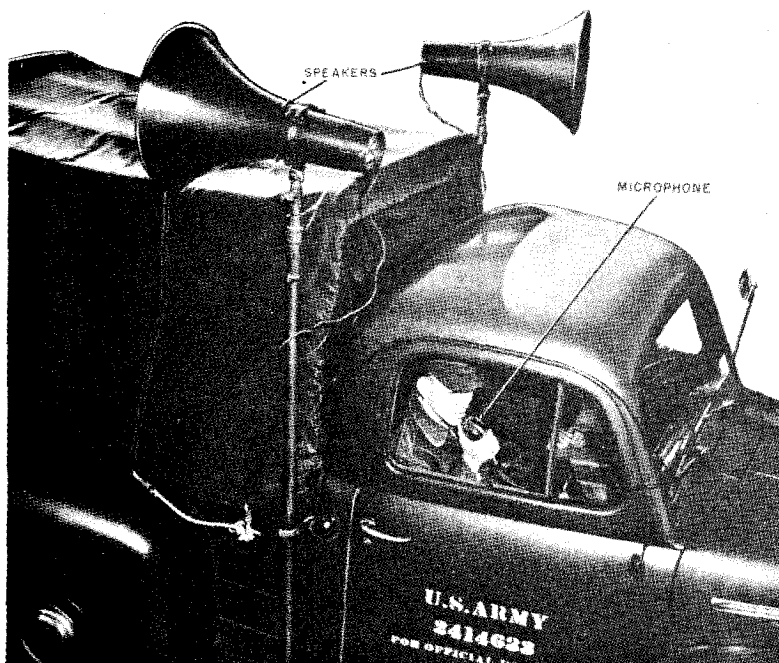

Figure 15. Speakers mounted on truck.
b. Public Address Truck. When a truck is to be used frequently as a public address truck the assembled speakers may be mounted as shown in figure 15. Be sure that all clamps and mounting bolts are tight before mounting the speaker.
When the microphone is used in a vehicle it is not usually mounted on the microphone stand. Use the microphone as a hand microphone (fig. 15). Be sure that the microphone is fastened so that it will not fall or be dropped.